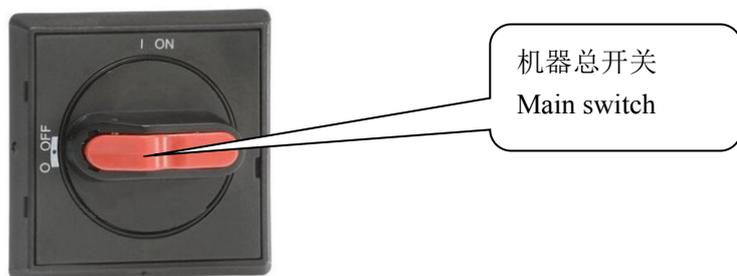

Fig. 2.4
1.1. The main switch is installed in the rearmost end of the equipment. Please turn on the main switch (as shown in Fig. 2.4) to electrify the equipment and insert lever drive and keyboard mouse receiver in USB interface.